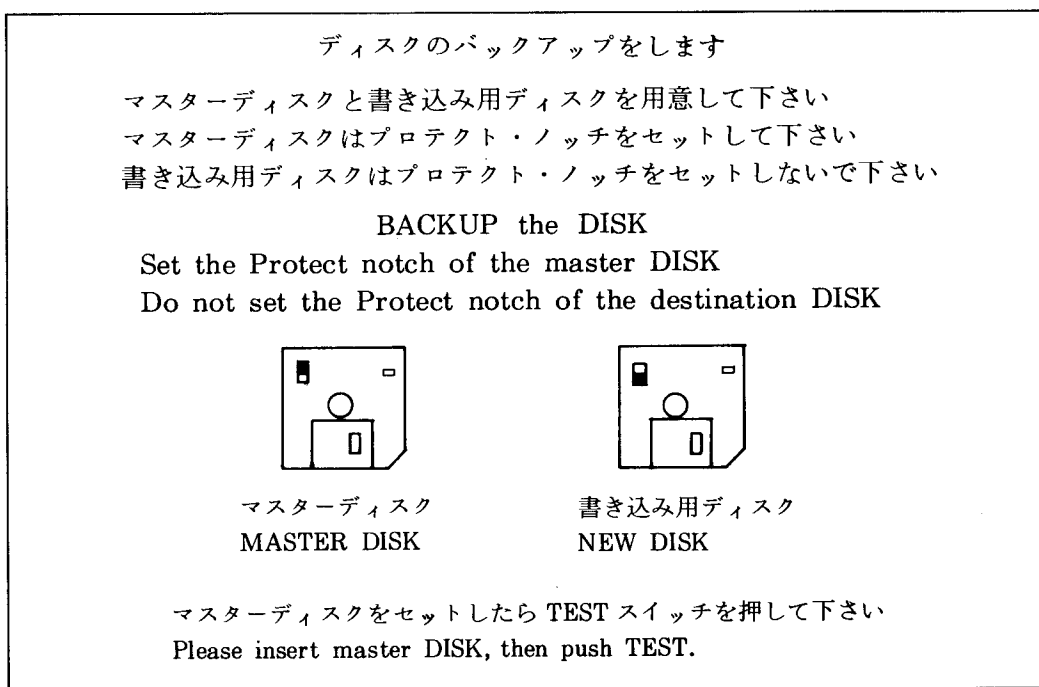
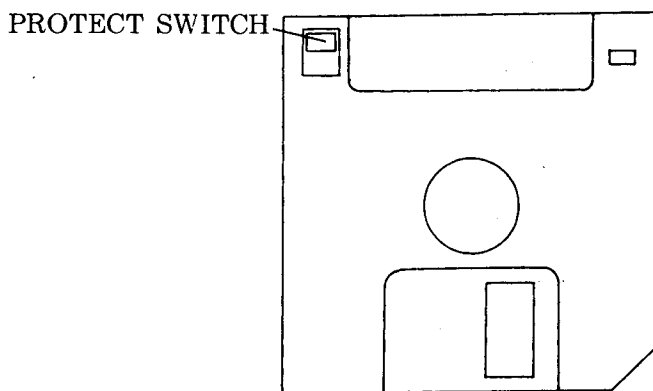

Fig. 1
Fig. 2
- (1) When turning the power ON while keeping the SERVICE SW (MAIN) pressed down, the display as shown in Fig. 1 will appear.
The position of PROTECT SWITCH as per Fig. 1 is shown in Fig. 2. When the SWITCH is set UPWARD as shown, WRITE is not possible. Usually, the SWITCH is set DOWNWARD (WRITE OK position).